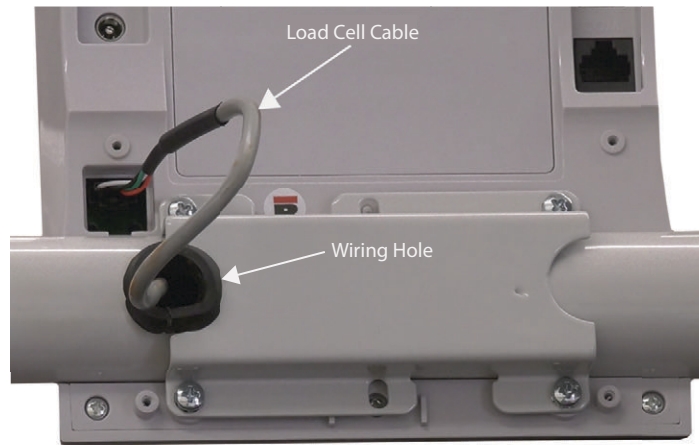

Figure 11. Load Cell Cable Connection and Wiring Cover
12. Catch and pull the cable through the wiring hole of the center rail (see Figure 11).
13. Reconnect the cable to the indicator (see Figure 11).